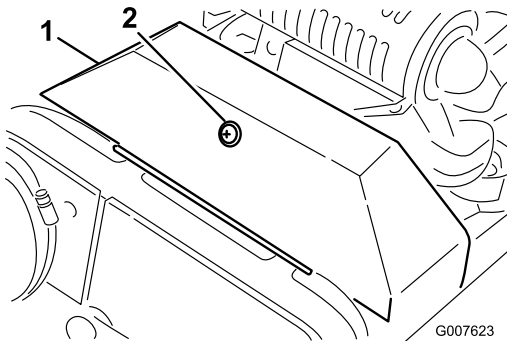

Figure 31
3. Loosen the retainer securing the V-belt cover and pivot the cover open (Figure 31).